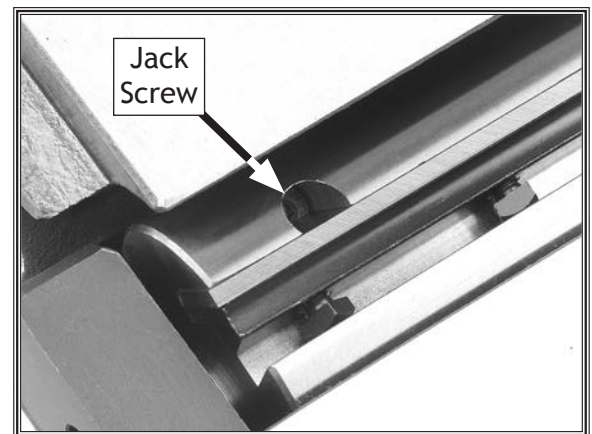

Figure 33. Location of jack screw access hole.
7. **Jack Screws**—Access jack screws through holes in cutterhead (see **Figure 33**). Using a hex wrench, rotate jack screws to raise or lower knife. When knife is set correctly, it will barely touch the bottom of the straightedge or the middle pad of the knife jig. Snug gib bolts just tight enough to hold knife in place. Repeat with remaining knives.